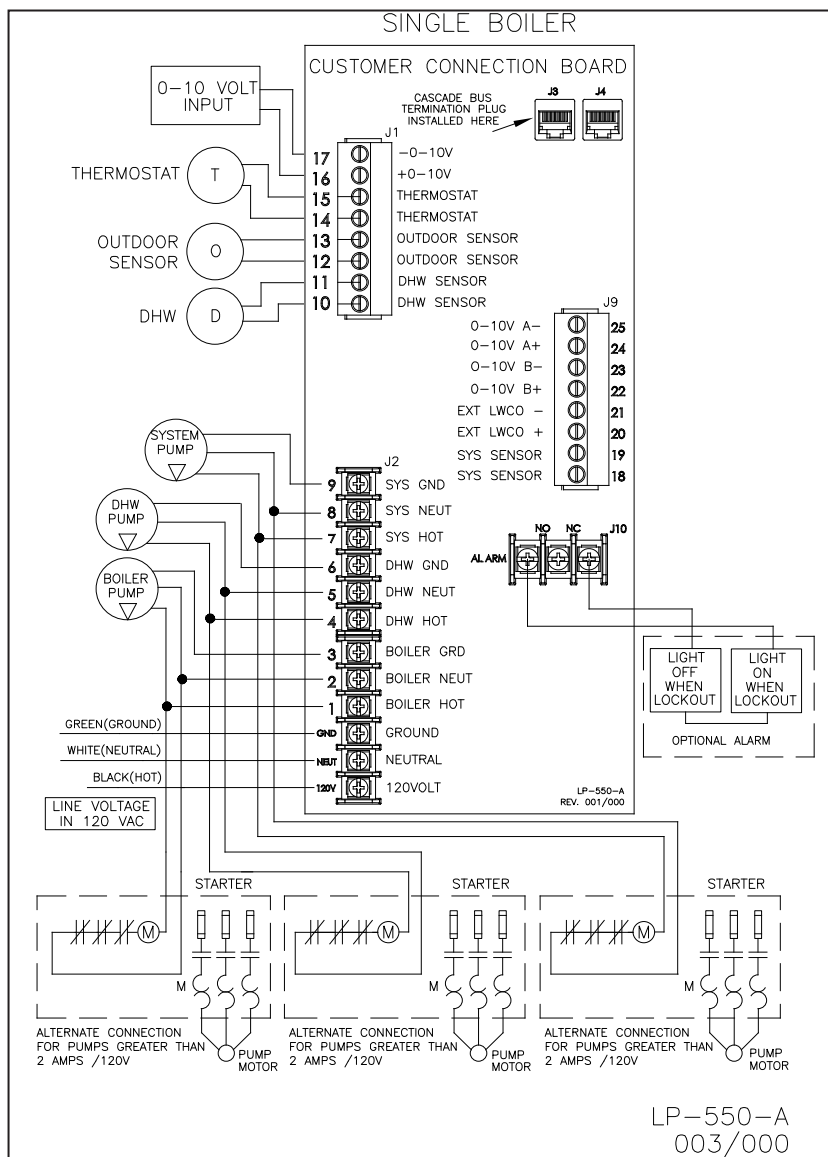

Figure 22 - Control Wiring
**NOTE:** A termination plug is included in the CAT 3 / CAT 5 Bus Connection Point, labeled J3 in Figure 22. DO NOT REMOVE THIS PLUG! Doing so will affect boiler operation and void warranty.
1. Connect 120V / 60Hz / 15 AMP incoming power wiring to the line voltage terminal strip in the electrical junction box at terminals 120V, Neutral, Ground (shown in Figure 22).
3. Connect the boiler pump as shown in Figure 22 to the terminals marked 1 – (HOT), 2 – (NEUT), and 3 – (GND). The connections shown are suitable for a maximum continuous pump draw of 2 amps at 120 volts. If the pump requires more current or voltage than the 120 volts supplied, an external motor starter or contactor will be required.
The control includes a dry contact alarm output. This is an SPDT circuit, rated at 5 amps at 120 volts. This contact can be used to activate an alarm light or bell or notify a building management system if the boiler goes into a lockout condition. The circuit between the ALARM COM and NC terminals is closed during normal operation and the circuit between ALARM COM and NO is open during normal operation. The connections depicted in Figure 22 show two 120 volt lights connected to the alarm terminals. One light will be on when the boiler is in normal mode and the other light will be on when the boiler is in lockout mode.
1. Connect the room thermostat to the terminals marked THERMOSTAT in the electrical junction box (see Figures 22 and 24). Alternately, any dry contact closure across these terminals will cause the boiler to run. Take caution to ensure neither of the terminals becomes connected to ground.
2. Connect the indirect sensor (7250P-325) to the terminals marked DHW SENSOR (shown in Figures 22 and 24) in the electrical junction box.
2. Connect a building management system or other auxiliary control signal to the terminals marked 16, 0-10 VOLT + and 17, 0-10 VOLT - in the electrical junction box (shown in Figure 22). Caution should be used to ensure that the 0-10 VOLT + connection does not become connected to ground.
1. Connect the boiler pump as shown in Figure 22 to the terminals marked 1 – (HOT), 2 – (NEUT), and 3 – (GND). The connections shown are suitable for a maximum continuous pump draw of 2 amps at 120 volts. If the pump requires more current or voltage than the 120 volts supplied, an external motor starter or contactor will be required.